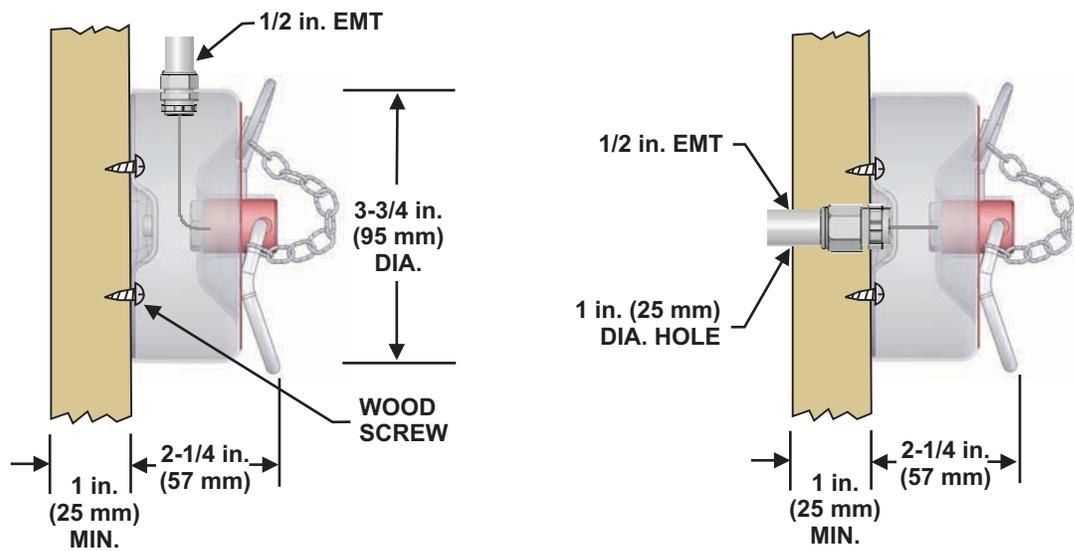

Figure 4-36. Installing the Remote Manual Release, P/N B875572
1. Attach a length of 1/16-inch steel cable to the Remote Manual Release handle, as follows (refer to Figure 4-36):